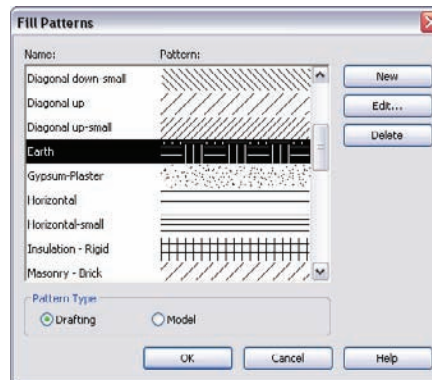

Figure 13.19
2. In the Fill Patterns dialog box (see Figure 13.19), click the New button.